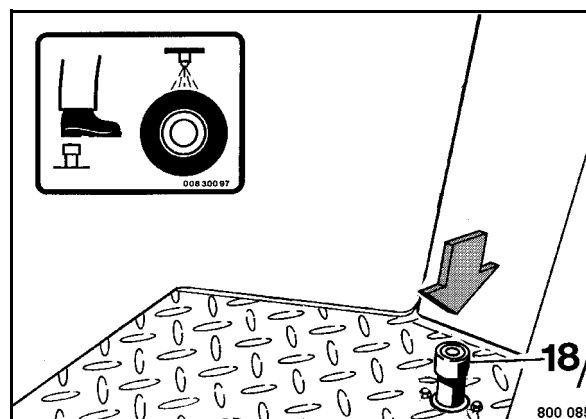

Fig. 63
- Operate the foot switch 18 (Fig. 63).